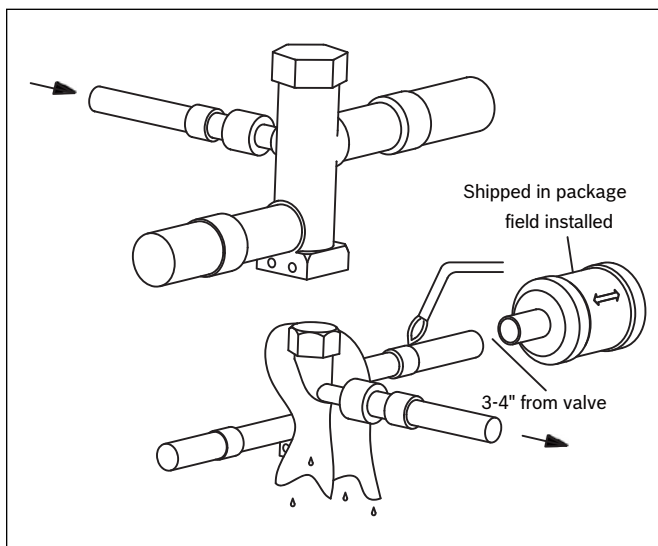

Figure 23
4. Wrap a wet rag around the valve body to avoid heat damage and continue the dry nitrogen purge (Fig. 23).